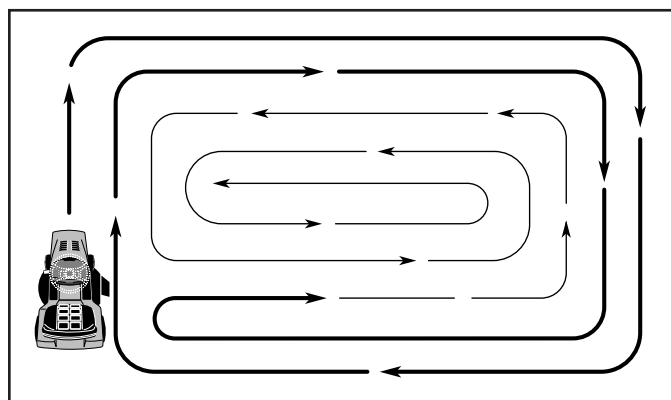

Fig. 26
- When mowing large areas, start by turning to the right so that clippings will discharge away from shrubs, fences, driveways, etc. After one or two rounds, mow in the opposite direction making left hand turns until finished (See Fig. 26).